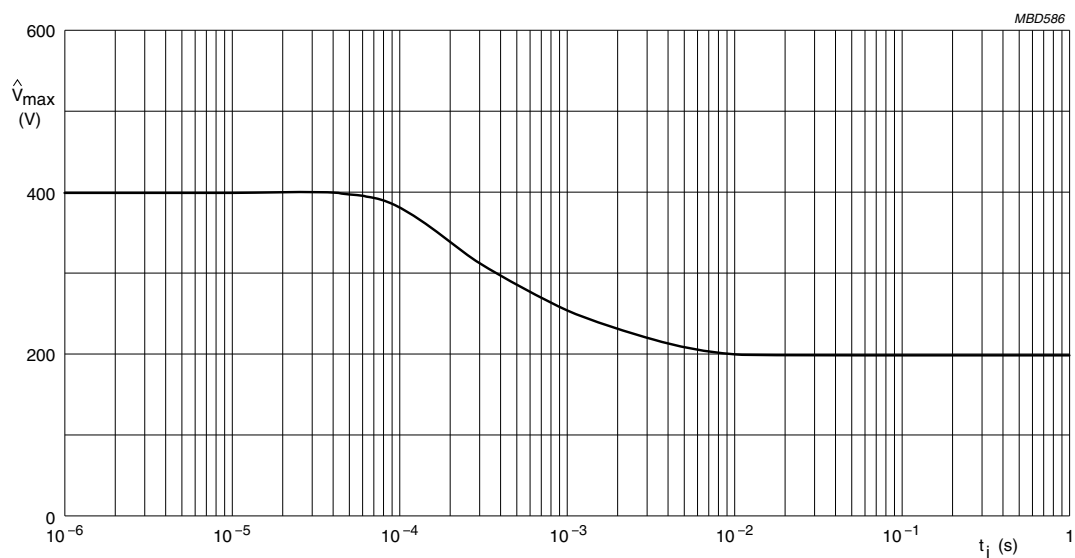

Fig. 13 Pulse on a regular basis; maximum permissible peak pulse voltage (\hat{V}_{max}) as a function of pulse duration (t_i).
However, maximum peak pulse voltages as indicated in Fig. 13, should not be exceeded.
- \hat{V}_i must be lower than the value of \hat{V}_{max} given in Fig. 13 for the applicable value of t_i .
$$\hat{P}_{\max} = 2 \text{ W and Fig. 13 gives } \hat{V}_{\max} = 400 \text{ V}$$
The dashed curve of Fig. 12 shows that at $t_i = 10^{-5} \text{ s}$, the permissible $\hat{P}_{\max} = 10 \text{ W}$ and Fig. 13 shows a permissible \hat{V}_{\max} of 400 V, so this resistor may be used.